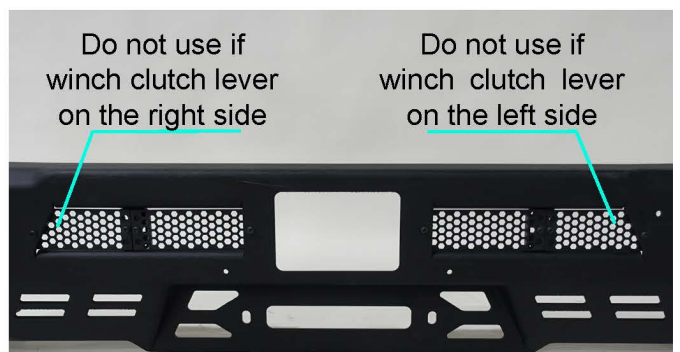

Fig.35
35. Do not install grille on the left or right side of bumper body, in case you will install winch (fig.35).